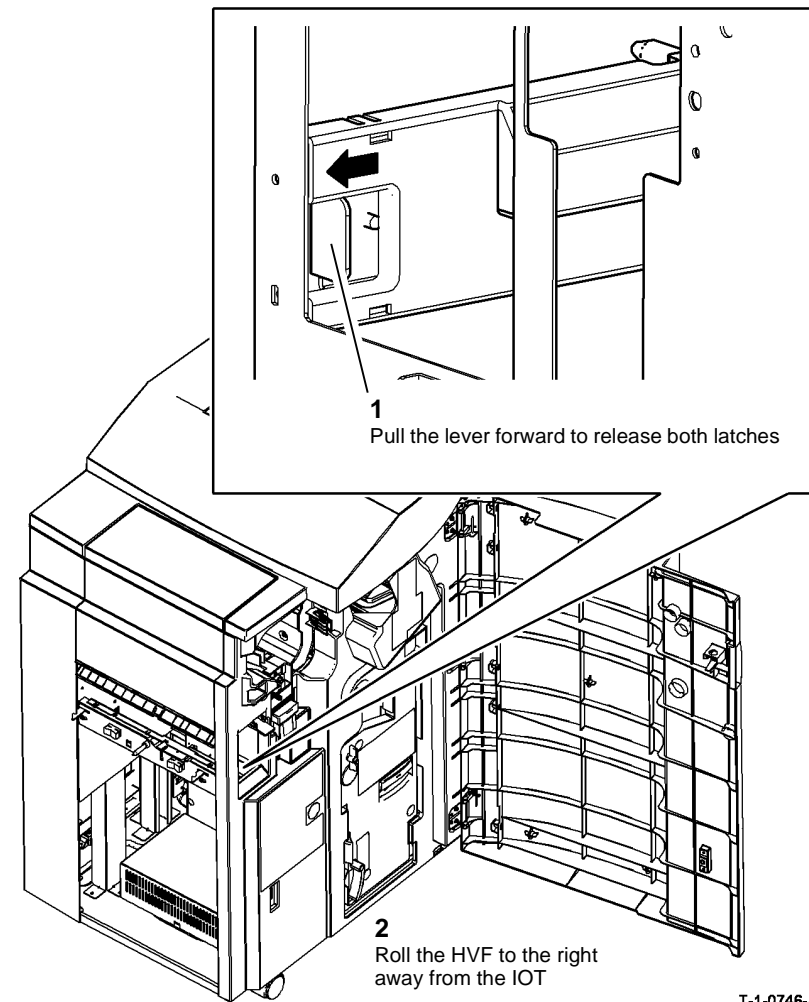

Figure 1 Docking latch location
2. Release the docking latch and move the HVF or HVF BM to the right, away from the IOT, Figure 1.